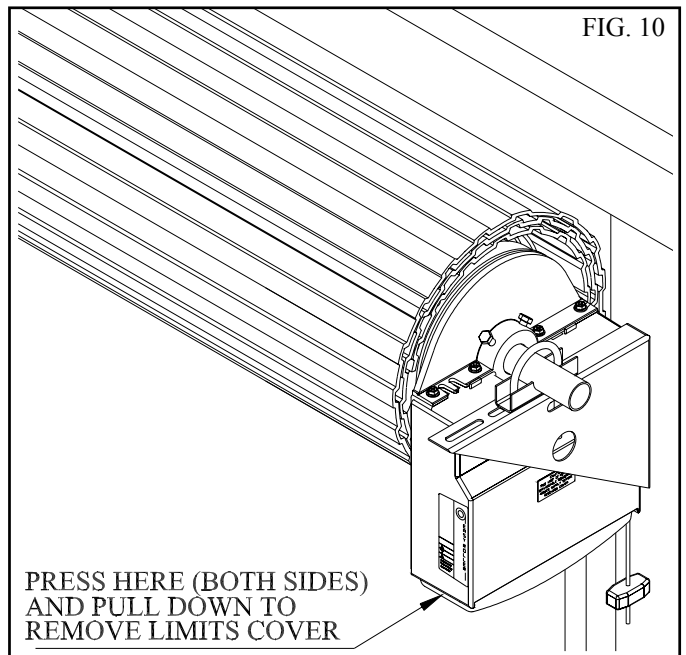
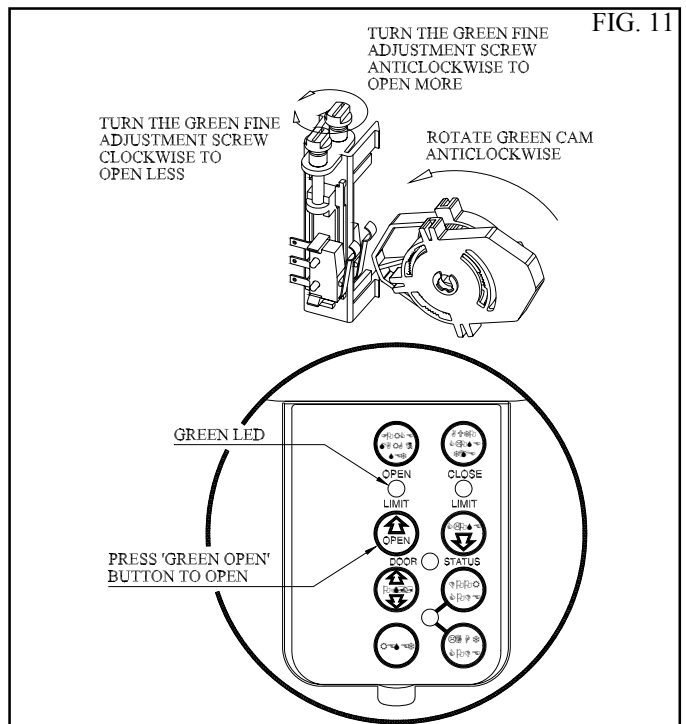

FIG. 10
FIG. 11
2. Remove the Limits Cover (Fig. 10). Rotate by hand in a anticlockwise direction the green limit cam (Fig. 11) until the cam clicks the open limit switch.
Press in and hold the Green Open button (Fig 11) The door should start opening. Release the Green Open button when the door reaches the desired open position. If the Green LED (Fig. 11) is illuminated and the desired limit position has been reached then the limit adjustment is complete. If the Green LED is illuminated but you are not happy with the door open position, the Green Fine Adjustment Screw (Fig. 11) can be adjusted to fine tune the open position. Adjust the screw anti-clockwise to open the door more. To open the door less adjust the screw clockwise. Each complete revolution of the adjustment screw is equal to approximately 10 mm of door travel.
2. Remove the Limit Cover (Fig. 10). Rotate by hand in a clockwise direction the Green Limit Cam (Fig. 14) until the cam clicks the open limit switch.